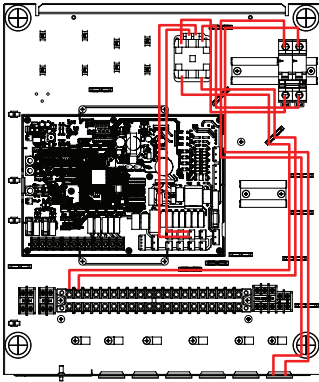

Fig. 2
- Step 3.** Mount the DHW kit at the provided space inside of Hydro unit (Fig. 2)
- Step 5.** Connect the Magnetic switch with TB1. (Fig. 2/3)
- Step 6.** Connect the Circuit breaker with TB5. (Fig. 2/3)